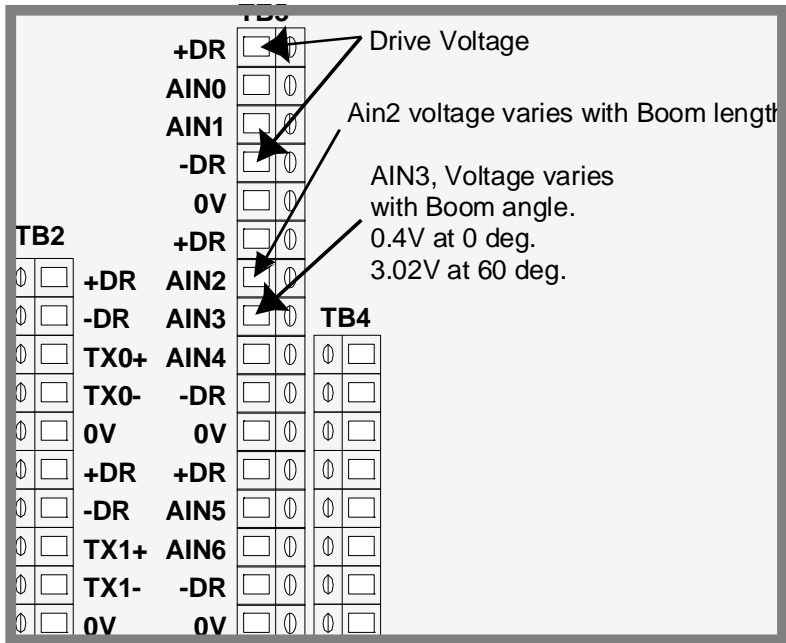

FIGURE 4.15 TERMINATION BOARD
2. Access the Termination Board (see Figure 4.15). Measure the Analog Sensor Drive Voltage. Refer to page 43, Figure 4.4.
2. Access the Termination Board (see Figure 4.15). Measure the Analog Drive Voltage. Refer to page 43, Figure 4.4.